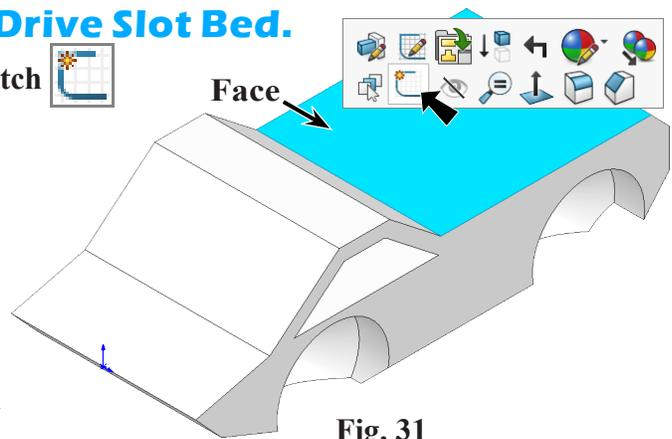

Fig. 31
Step 1. Click the **top face of bed** and click **Sketch** on context toolbar, **Fig. 31**.